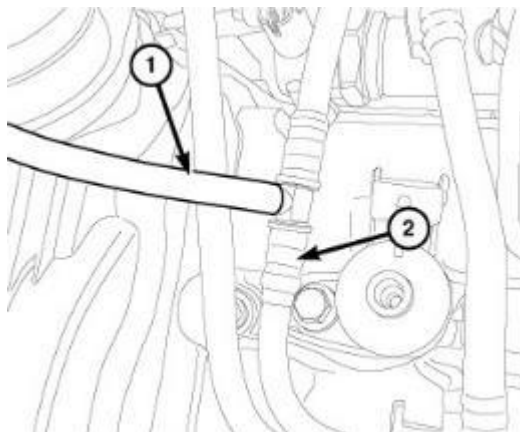

Figure 31 – Fuel Injector Return Line to Low Pressure Return Line
38. Remove the fuel injector return line (1) from the main low pressure return line (2) (Figure 31).